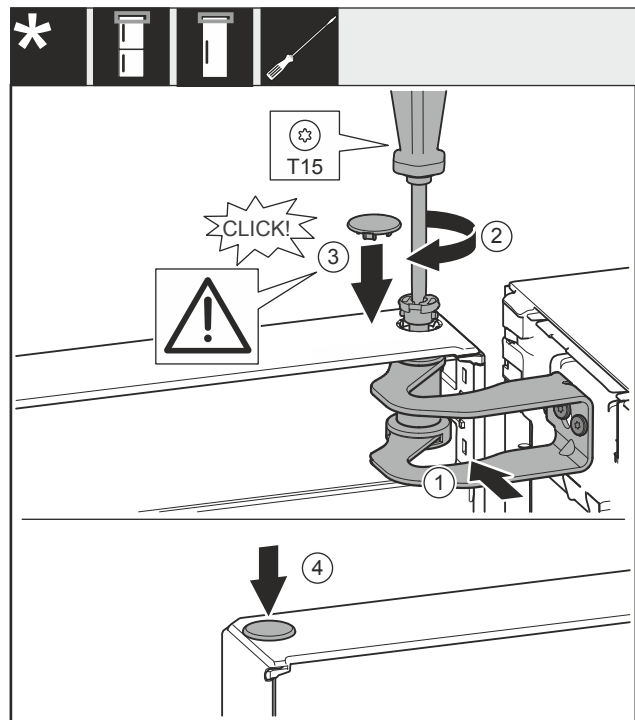

Fig. 37
- ▶ Align the door with the opening in the swap bearing block Fig. 37 (1).
- ▶ Insert the bolt Fig. 37 (2) and use screwdriver to tighten it.
- ▶ Insert the cover Fig. 37 (3).
- ▶ Check that the cover Fig. 37 (3) is resting on the door.
- ▶ Insert the cover Fig. 37 (4).